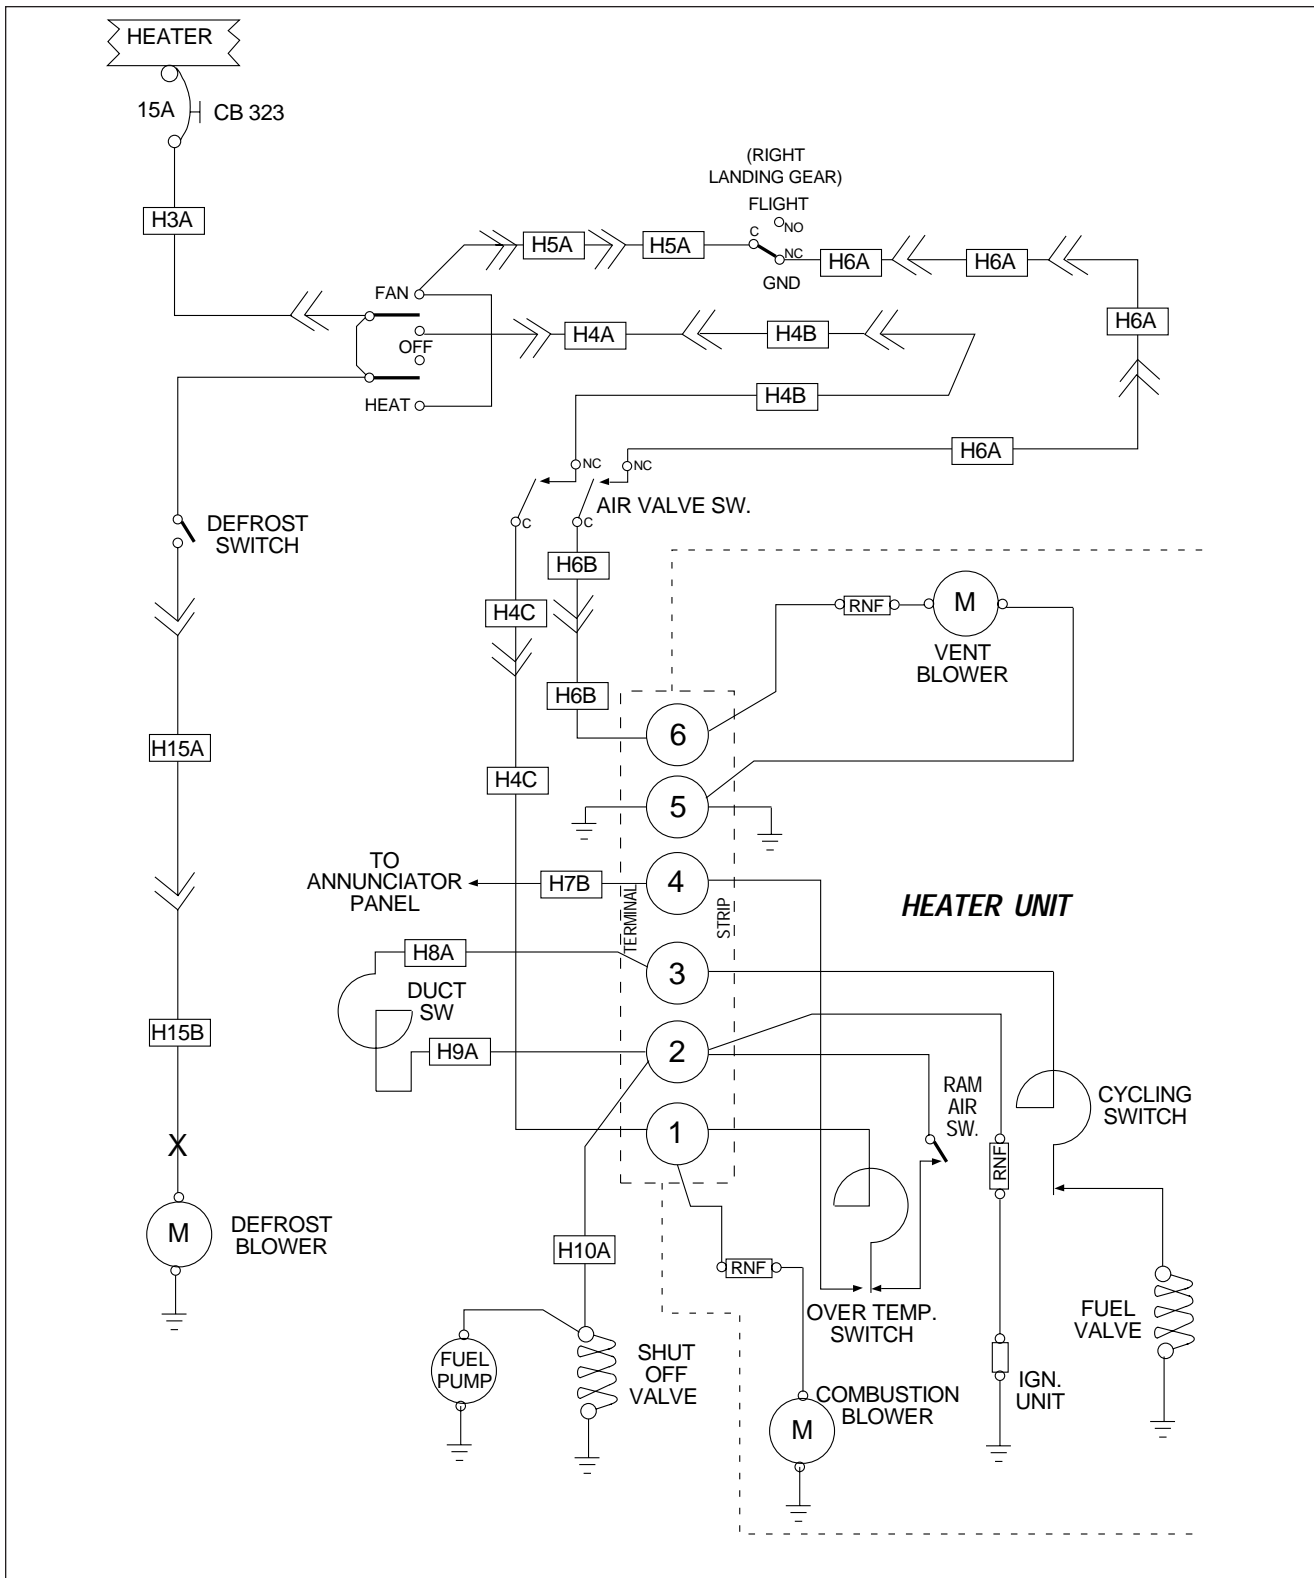

Figure 21-7. Seneca III (28 Volt System) and Seneca IV Heater and Defroster Wiring Diagram
1. With the HEATER SWITCH in the FAN position, voltage (14-volts nominal) should be present at the following locations: (Refer to Figures 21-7 and 21-7.)